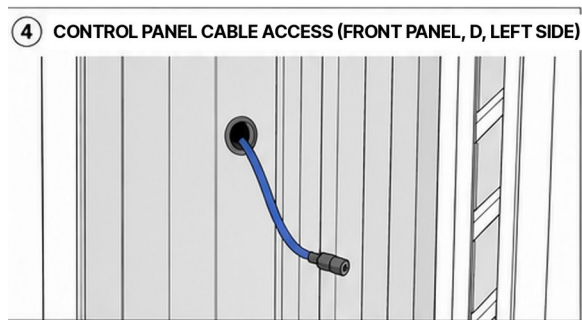

Figure 17, detail 4 (repeated). Control panel cable access on the left side of the Front Panel (D).
This step shares Figure 16 and Figure 17; detail 4 of Figure 17 is repeated below.
- Route the control panel cable through the access point on the left side of the Front Panel (D) (Figure 17, 4) and mount the UKU heater control panel on the exterior face there. Use the screws supplied by the electrician and a Phillips screwdriver. The Nova ships the plastic-case control panel, which HUUM specifies for mounting outside the sauna room. Follow pages 6 and 8 of the HUUM UKU manual (Control panel; Control panel with plastic case). The cable may not exceed 65 ft (20 m) or run parallel to high-current cables, and the terminal screws are tightened by hand only.